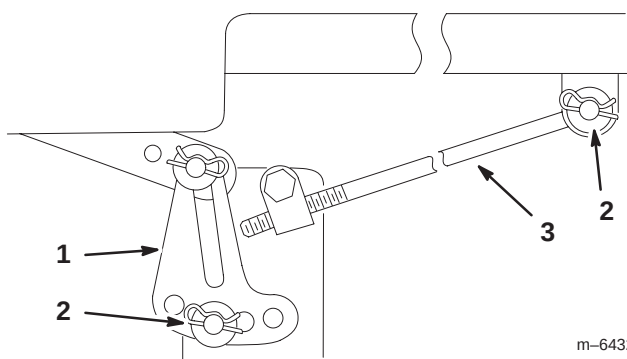

Figure 47
Note: Before removing the mower, make a note for which holes are used in the leveling brackets (Fig. 47).
5. Remove the hairpin cotter and washer from the adjusting rod (Fig. 47) on each side of the mower.
6. Remove the hairpin cotter and washer at the mower leveling brackets (Fig. 47) on each side of the mower. Note which hole the leveling bracket is mounted in for future installation. Slide the brackets off of the mounting pin.
- Attach the adjusting rod to the tractor with the washer and hairpin cotter (Fig. 47) on each side of the mower.
- Slide the leveling brackets onto the mounting pins and secure them with the washers and hairpin cotters (Fig. 47).